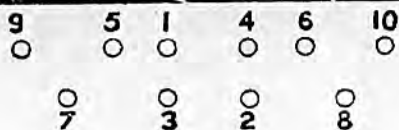

FIG. 7
8. Using manifold nut wrench, Fig. 7, remove nuts and lockwashers from manifold securing studs in cylinder head.
3. Tighten manifold and exhaust pipe securing nuts gradually and evenly until dead tight. The order in which to tighten the manifold nuts is shown in Fig. 7.